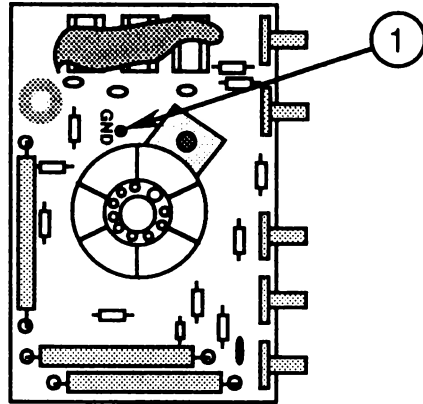

FIGURE 36
5. Turn the CRT board so that you can see the component side, and disconnect the gray CRT ground wire (Figure 36, #1).